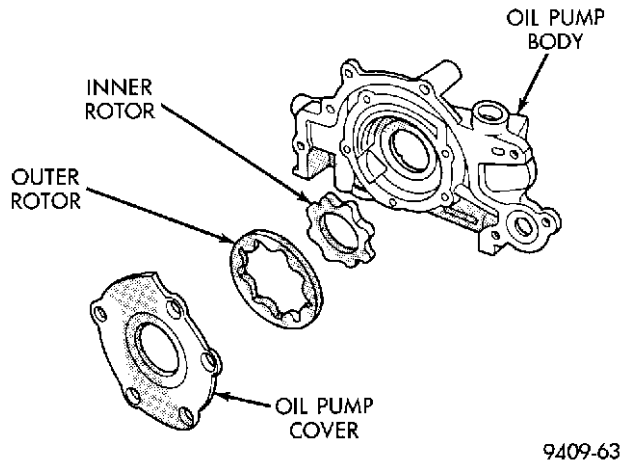

Fig. 101 Checking Oil Pump Cover Flatness
(1) Clean all parts thoroughly. Mating surface of the oil pump should be smooth. Replace pump cover if scratched or grooved.
(2) Lay a straightedge across the pump cover surface (Fig. 101). If a 0.076 mm (0.003 inch.) feeler gauge can be inserted between cover and straightedge, cover should be replaced.